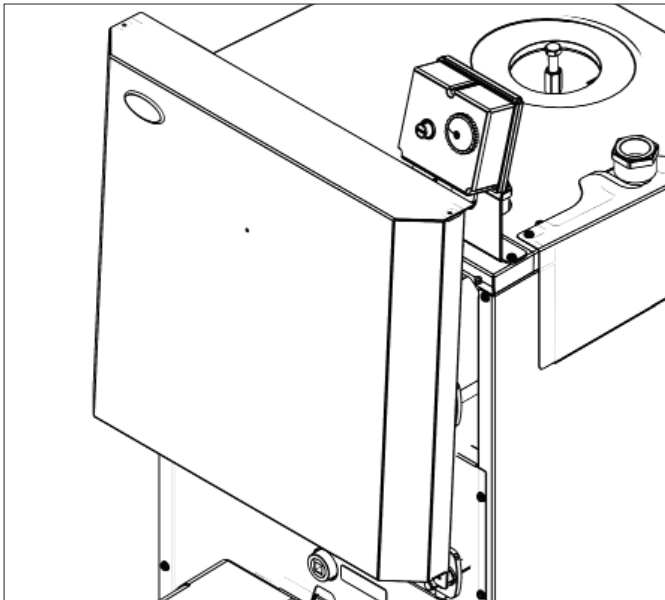

Figure 10-2: Removing the upper front panel
2. Lift the upper front panel up and off the boiler. Refer to Figure 10-2.